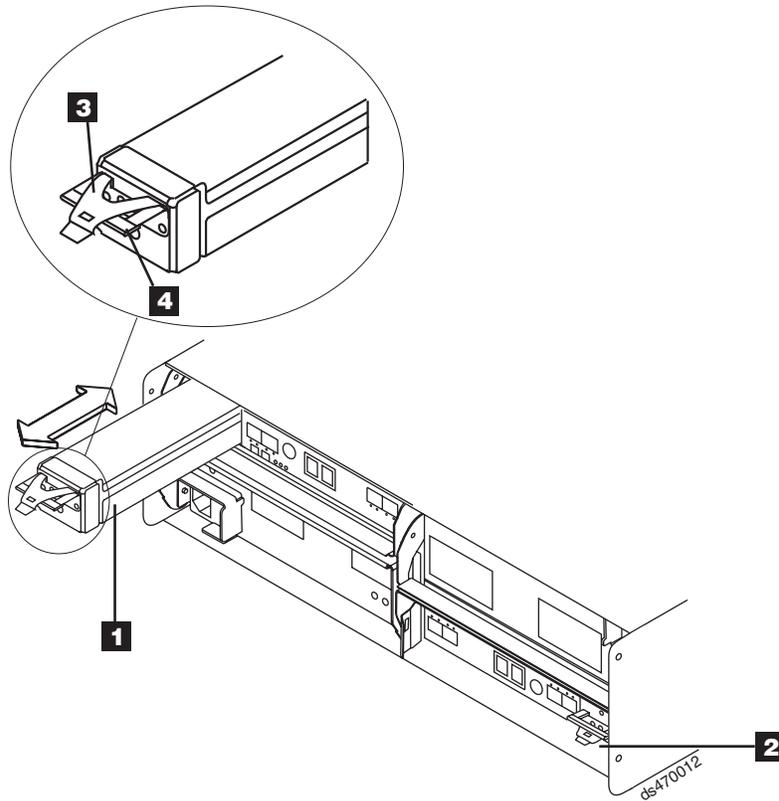

Figure 108. Removing and replacing a battery unit from the controller chassis
5. To remove the failed battery unit from the RAID controller, press the battery unit latch (the coral colored tab **3**) toward the black colored battery pull handle (**4**) to unlatch the battery from the DS4700 Express chassis and slowly pull the battery unit from the controller chassis using the black handle, as shown in Figure 108 on page 168.